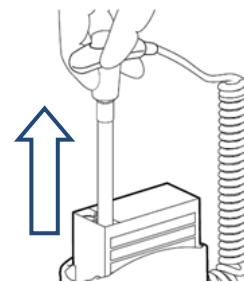

Figure 64: Applying Temp Probe Covers
- 3) Inset the Temp Probe end into a Probe Cover within the box (Refer to Figure 64).
- 4) Withdraw the Temp Probe and load a Temp Probe cover onto the Temp Probe by holding the Temp Probe collar with the thumb and forefingers, being careful not to hold or press the gray ejection button. Insert the Temp Probe into a cover until you hear a click (Refer to Figure 64).